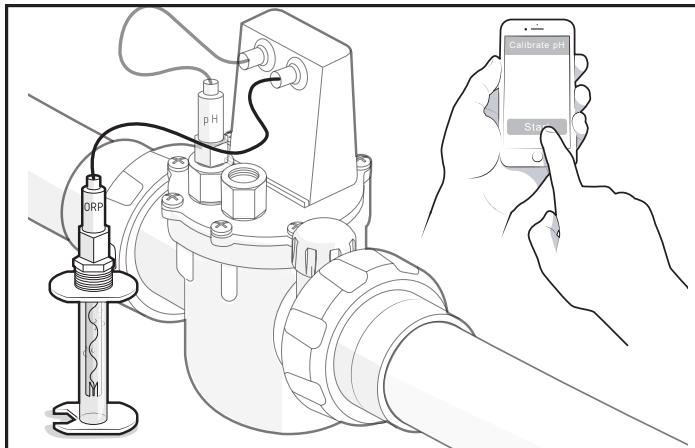

Figure 12. Submerge sensor & start calibration
9. Submerge sensor into the ORP 470 mV buffer solution inside the storage tube. Start calibration using and following the iAquaLink® app or OneTouch controller (AquaLink® RS only) go to: MENU / HELP > SYSTEM SETUP > TRUSENSE, see Figure 12.